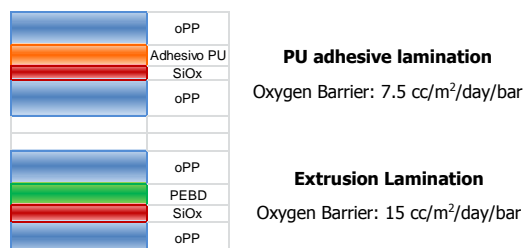

Figure 4. Example of oxygen barriers.
As seen in Figure 4, significant improvements in oxygen barrier can be accomplished with the design of a structure by a lamination process by applying a PU-based adhesive laminating instead of an
**Eliminado:** Figure 4